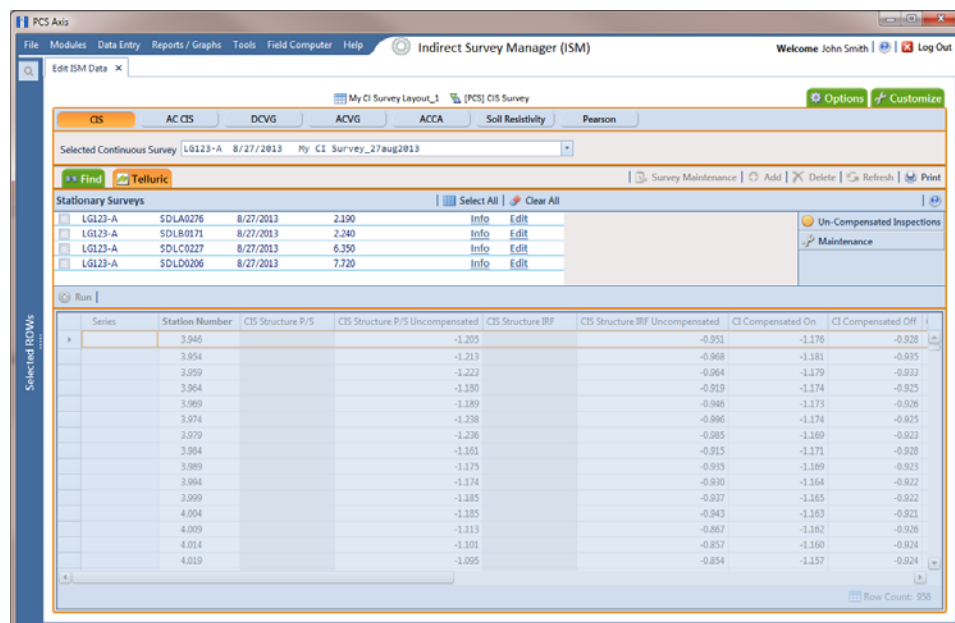

Figure 14-30. ISM Telluric Workspace
- 4 Click the **Telluric** tab  to open the *Telluric* workspace (Figure 14-30).
- 4 Click the **Telluric** tab  to open the *Telluric* workspace (Figure 14-30, page 646).